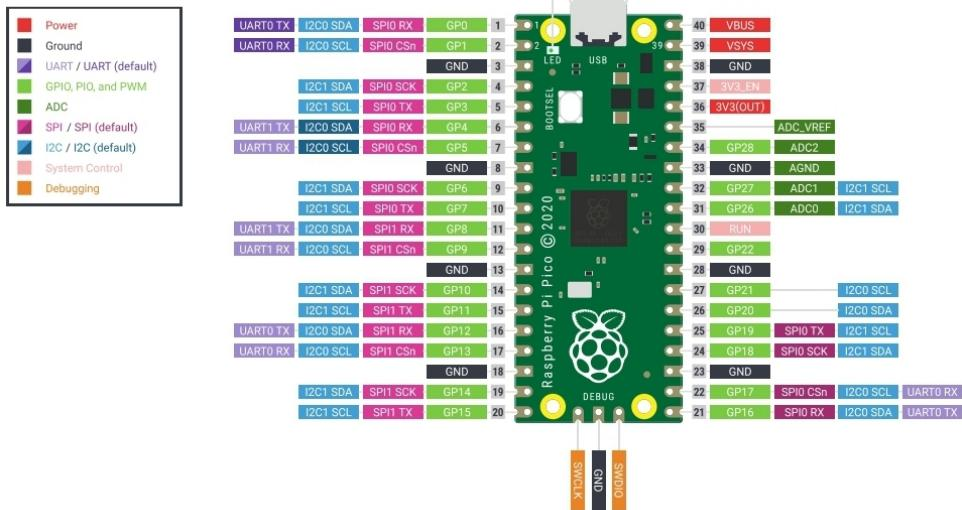

Fig. 12.1: Pin diagram
**Solution:** Connect the LED to pico as per Table 12.1 and Fig. 12.1